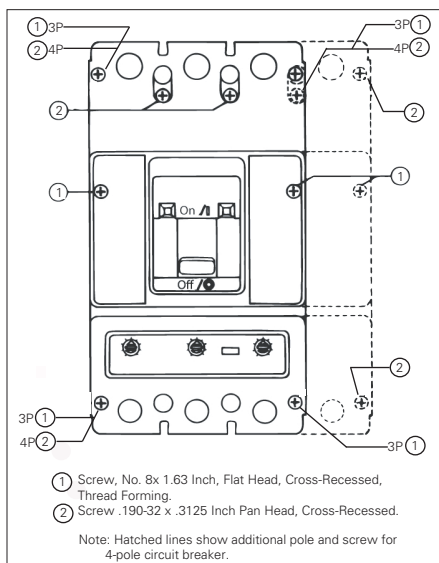

Fig. 2-4. Cover Screw Installation Positions
- 2-6. With circuit breaker handle in OFF position and accessory pigtail leads (if used) routed as required, install circuit breaker cover. Secure with pan-head screws followed by thread-forming screws, as shown in Fig. 2-4.